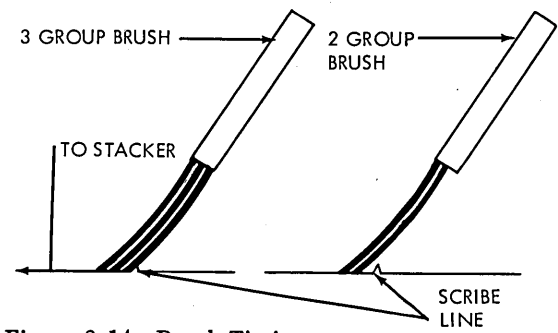

Figure 2-14. Brush Timing
2. Loosen locking screws at either end of brush assembly and shift block so that the heels of the brushes are .050" + .030" - .020" off the scribed line on separator toward the stacker (left in read feed) (Figure 2-14).
2. Loosen locking screws at either end of brush assembly and shift block so that the heels of the brushes are  $.050'' + .030'' - .020''$  off the scribed line on separator toward the stacker (left in read feed) (Figure 2-14).